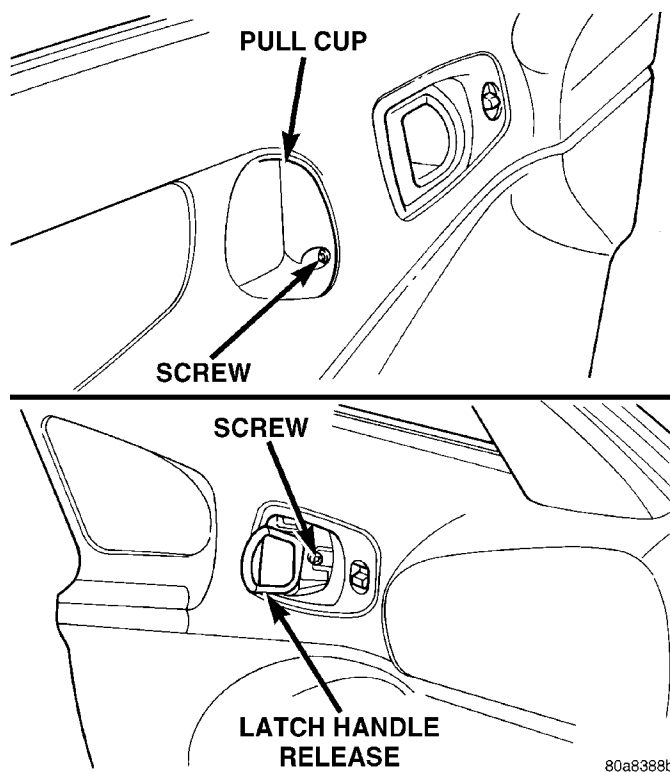

Fig. 45 Rear Door Trim
- (1) Release door latch and open door.
- (2) Lower window glass.
- (3) Remove window regulator crank.
- (4) Remove screw from inside arm rest pull cup.
- (5) Remove screw from behind inside latch release handle (Fig. 45).
- (6) Disengage push-in fasteners holding trim to door panel around perimeter of trim panel.
- (7) Disengage trim panel from retainer channel in inner belt weatherstrip at top of door by lifting while jiggling.
- (8) Tilt top of trim panel away from door and disengage clip holding latch rod to handle.
- (9) Separate latch rod from handle.
- (10) Separate trim panel from door.